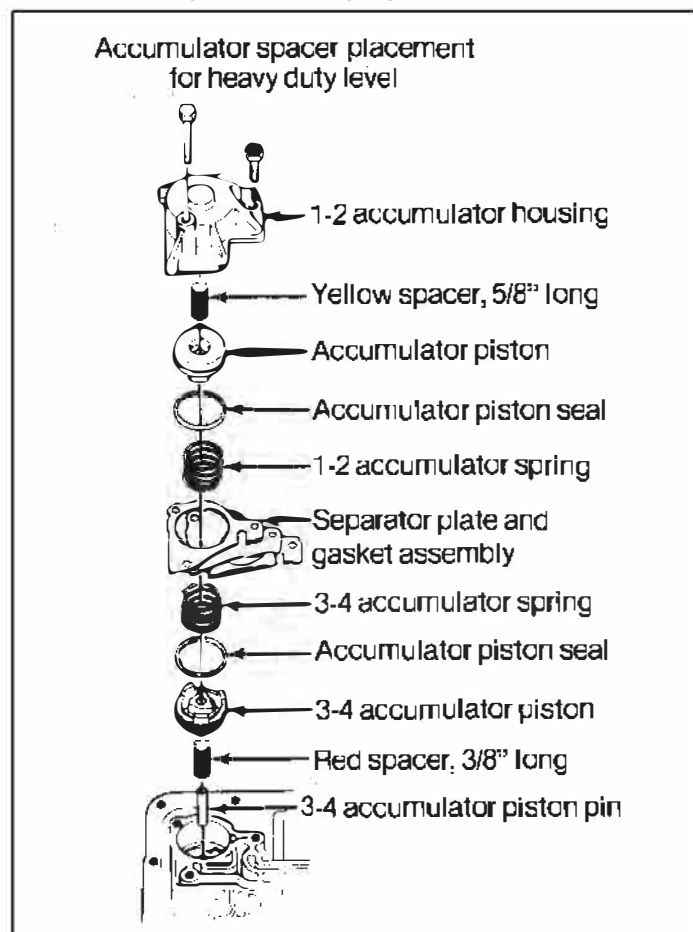

Figure 10
**STEP 5.** Beginning mid 1987 model year, TH-700's have an auxiliary valve body located where earlier models have a cover plate (See Fig. 2.) Remove the cover plate or auxiliary valve body. Be careful not to drop the check ball located in the auxiliary valve body (See Fig. 8.) Remove the 1-2 accumulator housing while holding the separator plate up to the case. Then slowly lower the separator plate and retrieve the check balls located above the plate. Make note of the **color** and **location** of the 1-2 and 2-3 accumulator springs for correct reassembly (See Fig. 10.) Remove all old gasket material from
**STEP 13. Heavy Duty Only;** Place the 3-4 accumulator pin in the case. Over the pin place the **RED** (3/8") spacer sleeve, accumulator piston and spring (spring is installed at step 18.) Use a dab of grease or petroleum jelly to hold components in place (See Fig. 10) Proceed to step 15.
**STEP 15. Heavy Duty Only;** Remove the spring and piston from the 1-2 accumulator housing (See Fig. 10.) Install over the pin the **YELLOW** spacer, piston (notice orientation) and spring. Proceed to step 17.